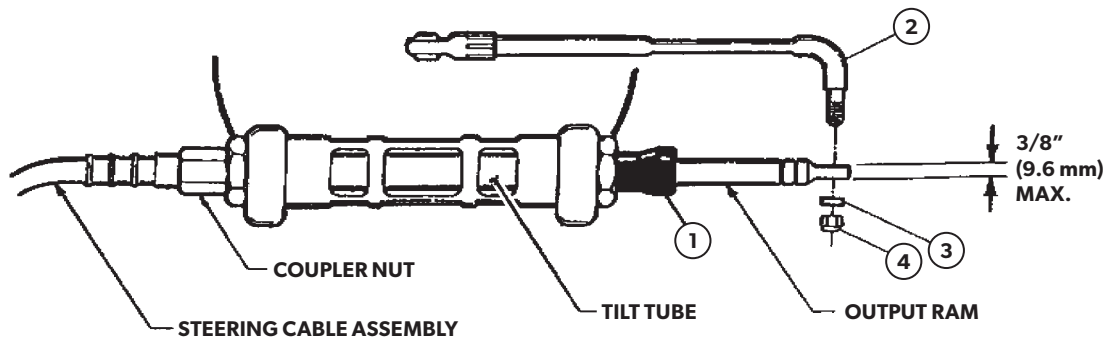

Figure 1.
2. Apply a waterproof marine grease and slide steering cable output ram through tilt tube (see figure 1). Thread coupler nut fully onto tilt tube. Tighten securely (approximately 15 ft. lbs.)